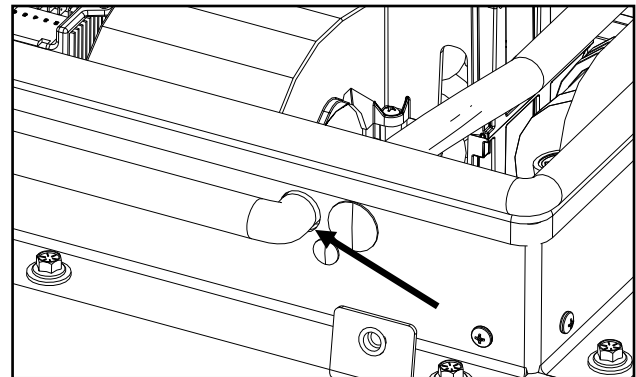

Fig. 3.8 (Harness Routing)
- 3.8 Per figure 3.8, run the blue and white loomed wires from the converter assembly along opposite side of the air conditioner, install a grommet into hole where dome plug was removed in step 3.4, and pass the wires through the grommet.